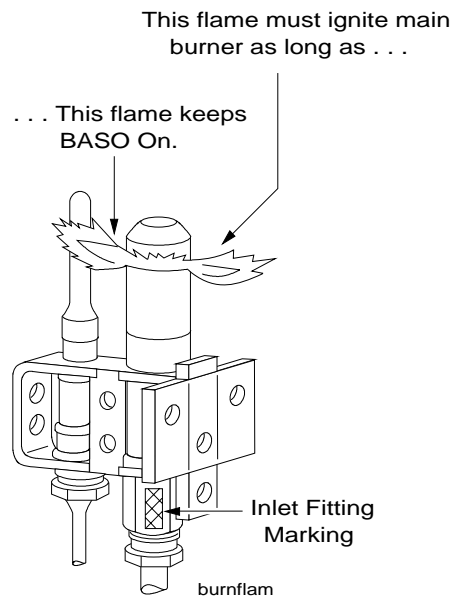

Figure 3: Turn Down Test without Instruments
1. Reduce the flame on the pilot, through the use of the “B” valve to a point where the pilot flame does not impinge on the thermocouple (see Figure 3).